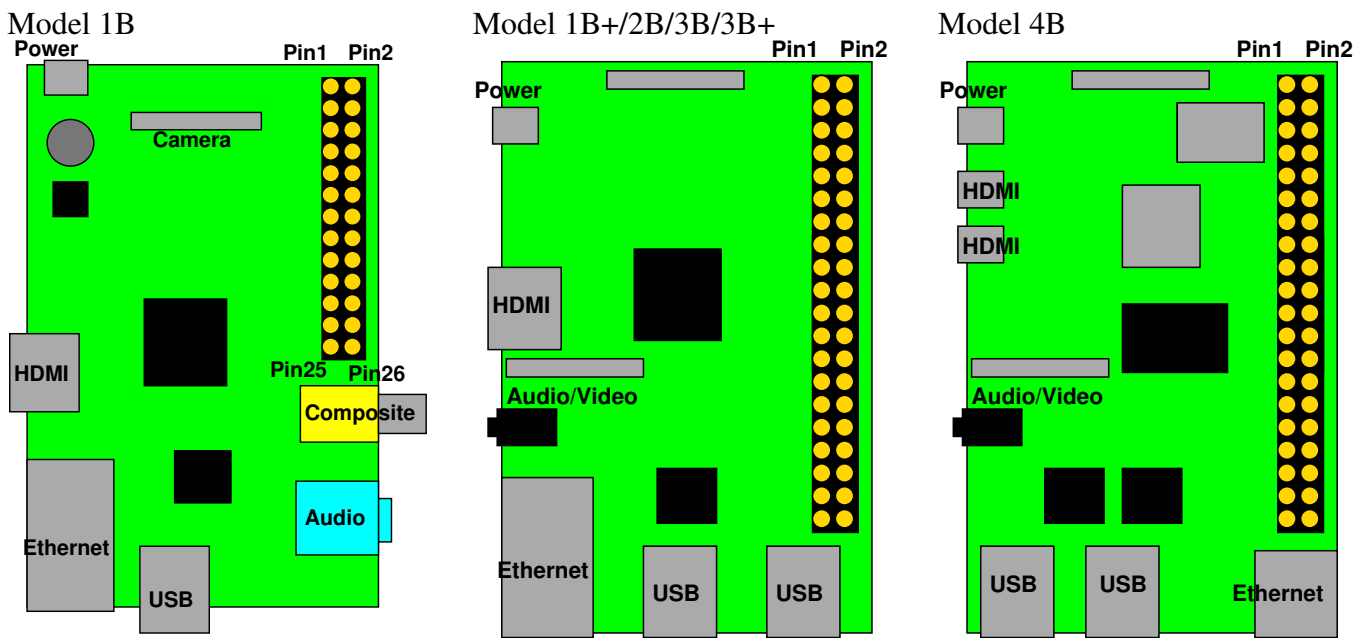
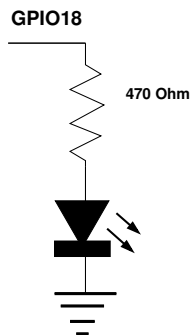

Figure 1: Raspberry Pi Layout
Figure 2: LED connected to GPIO18.
- (a) Hook up an LED to GPIO18. Figure 2 shows the appropriate circuit and Figure 1 and Table 1 might be helpful.